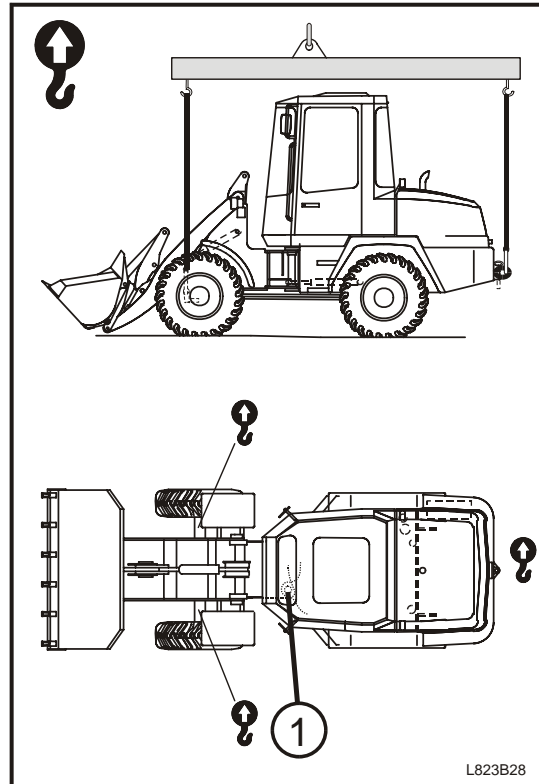

Fig. 28
- Attach the machine in the proper manner to the 3-point hoisting appliance at the marked points (Fig. 28).